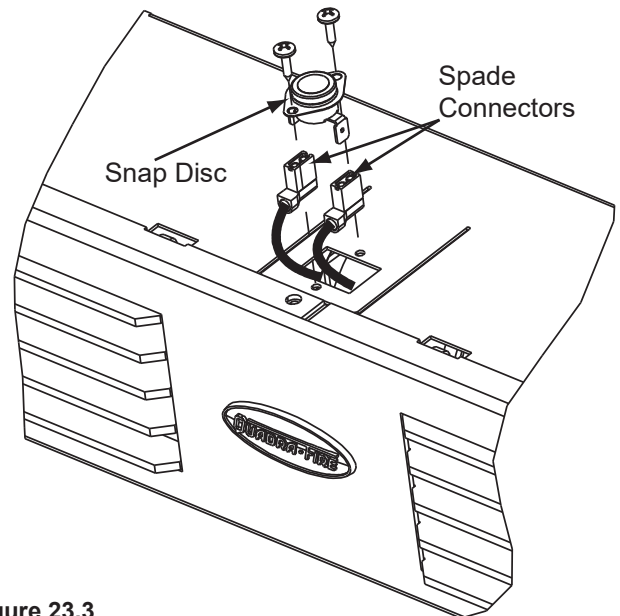

Figure 23.3
3. Pull the snap disc and spade connectors up and out of bracket as shown in **Figure 23.3**.